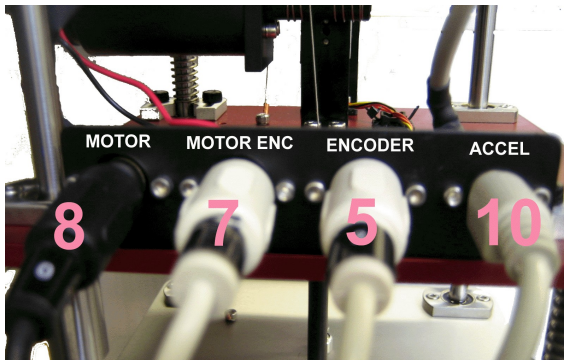

Figure 19: Active Suspension Plant Front Top View.
3. Figure 19 shows the Active Suspension top front panel where one motor cable, 2 encoder cables, and one 6-pin-mini-DIN analog cable are to be connected according to Table 8.